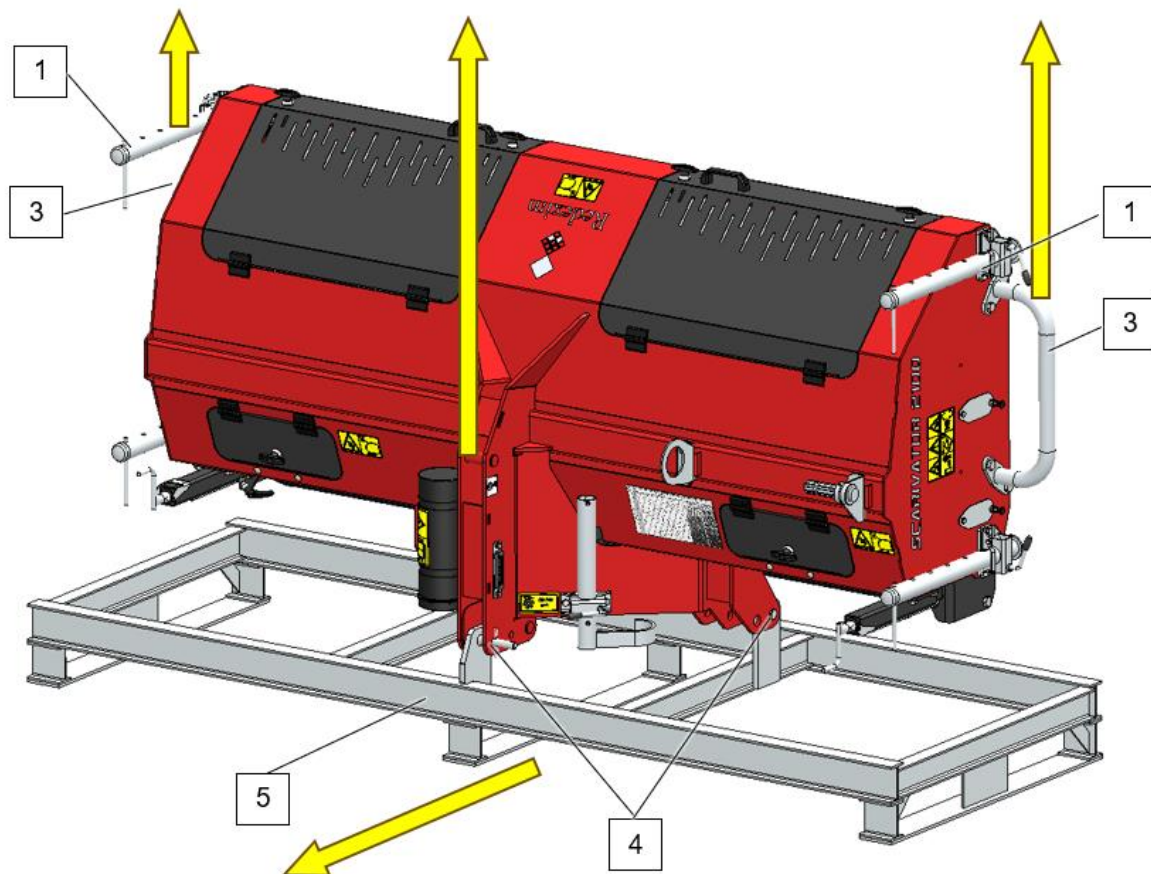
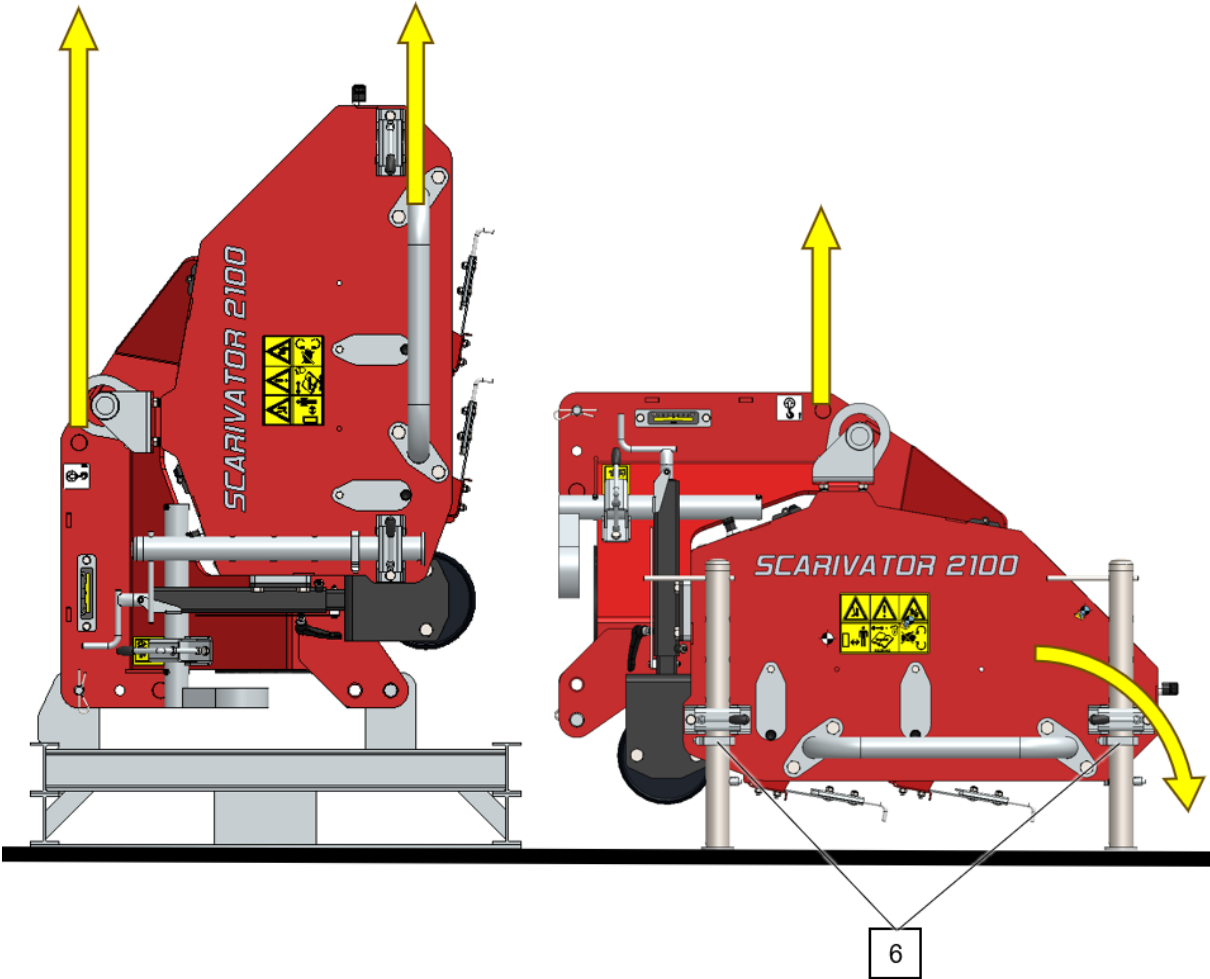

Fig. 2
Fig. 3
The machine should be prepared for use as follows (see Fig. 2 and Fig. 3):
4. Release the pallet (5) by removing the pins (4).
6. Slowly lower and tilt the machine until the machine hangs in its horizontal working position (Figure 3).
7. Mount the two rear support legs (1) back into the support leg clamps.
8. Adjust the four support legs to the same height so that only these rest on the ground and reinsert the locking pins (6) under the clamps.